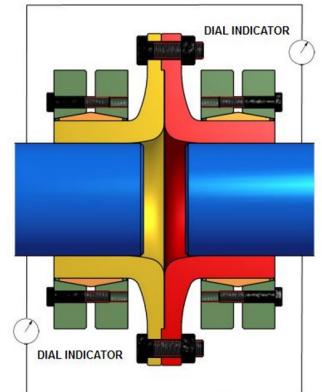

Fig. 7 Flange Coupling installed – check of runout
- Using dial indicators per Figure 7, make sure that runout values are within 0.070 mm TIR (total indicator reading) for every 100 mm shaft diameter.